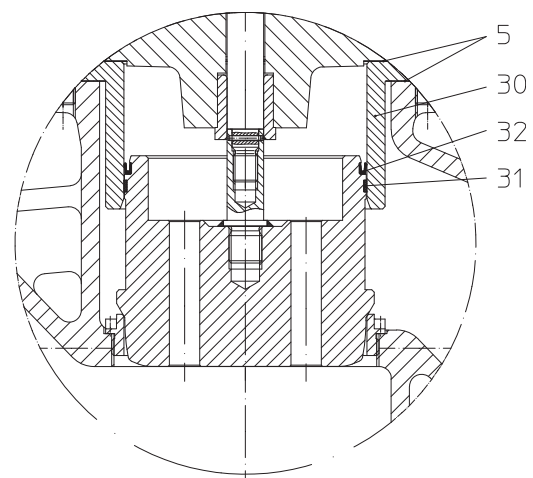

Fig. 11: Pressure balanced plug
- Remove plug as described in item 7.2.1.
- Prise worn piston seal (pos. 32) out of groove in plug with suitable tool (e.g. screwdriver).
- Insert new piston seal (pos. 32), taking care that it is in the correct position (refer to Fig. 11).
- Replace guide ring (pos. 31).
- Clean sliding surface of guide bush (pos. 30); smooth with fine abrasive if necessary.
- Replace 2 gaskets (pos. 5).
- Secure with nuts (pos. 10) and tighten them crosswise.